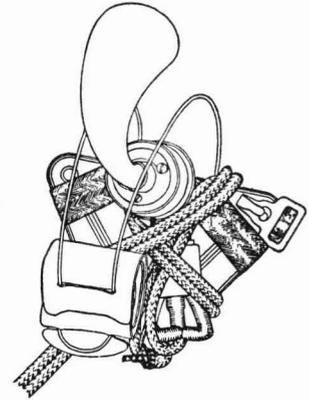

Fig. 6
4.05 Swing the cord slanting across the front up to the right of the transmitter, and slanting across the back to the left side, as in Fig. 6.